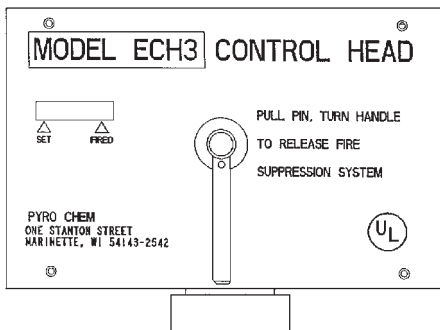

Figure 2-6. Electric Control Head.
- ▶ maximum of five (5) cylinders. See **Figure 2-6**.